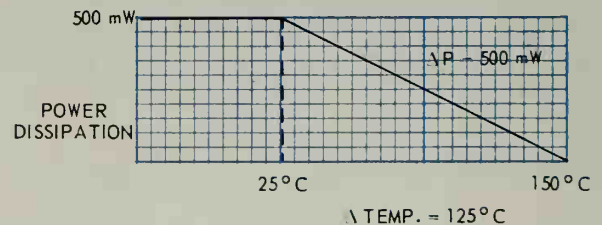

Fig. 12-7. Type of curves used in derating a diode due to an increase in temperature.
7. **POWER DISSIPATION.** The power rating at 25 deg. C (77 deg. F). Derating specifications and curves are also given. In order to use these, refer to Fig. 12-7.